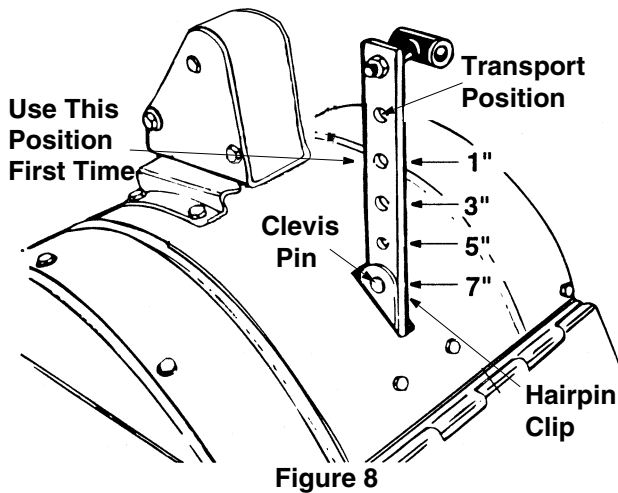
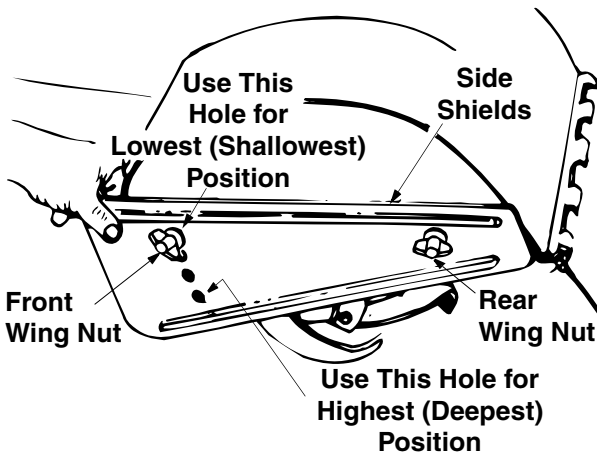

Figure 8
Figure 9
WARNING: When operating the tiller for the first time, use the depth stake setting that gives 1 inch of tilling depth (second hole from the top). See Figure 8.
Tilling depth is controlled by the depth stake which can be adjusted to five different settings. See Figure 8. Adjust the side shields as shown in Figure 9, as you adjust the depth stake. Be certain spark plug wire is disconnected and grounded against the engine.
- When using the tiller for the first time, use the second adjustment hole from the top (1" of tilling depth). See Figure 8.
- To adjust the depth stake, remove the clevis pin and hairpin clip. See Figure 8. Move the depth stake to the desired setting.
- To adjust the side shields, remove the front wing nut and loosen the rear wing nut. See Figure 9. Place side shield in position desired. Replace wing nuts and tighten securely.